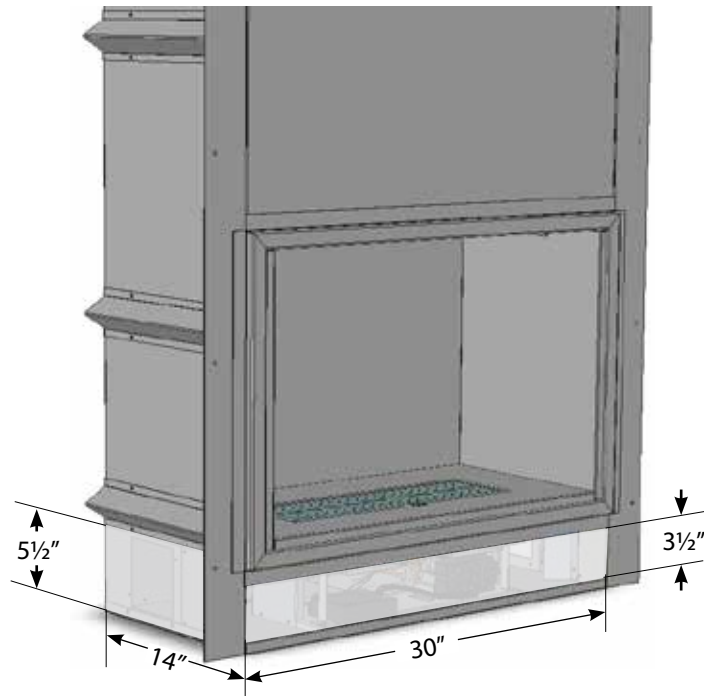

Figure 6
- **Within two feet of the cover plate,** cut a twenty square inch, or greater, opening in the wall. This opening **must** be within the shaded area shown in Figure 6 and **must** be in the same room as the Vision Gas Fireplace. Figure 6 shows the left and front opening areas.